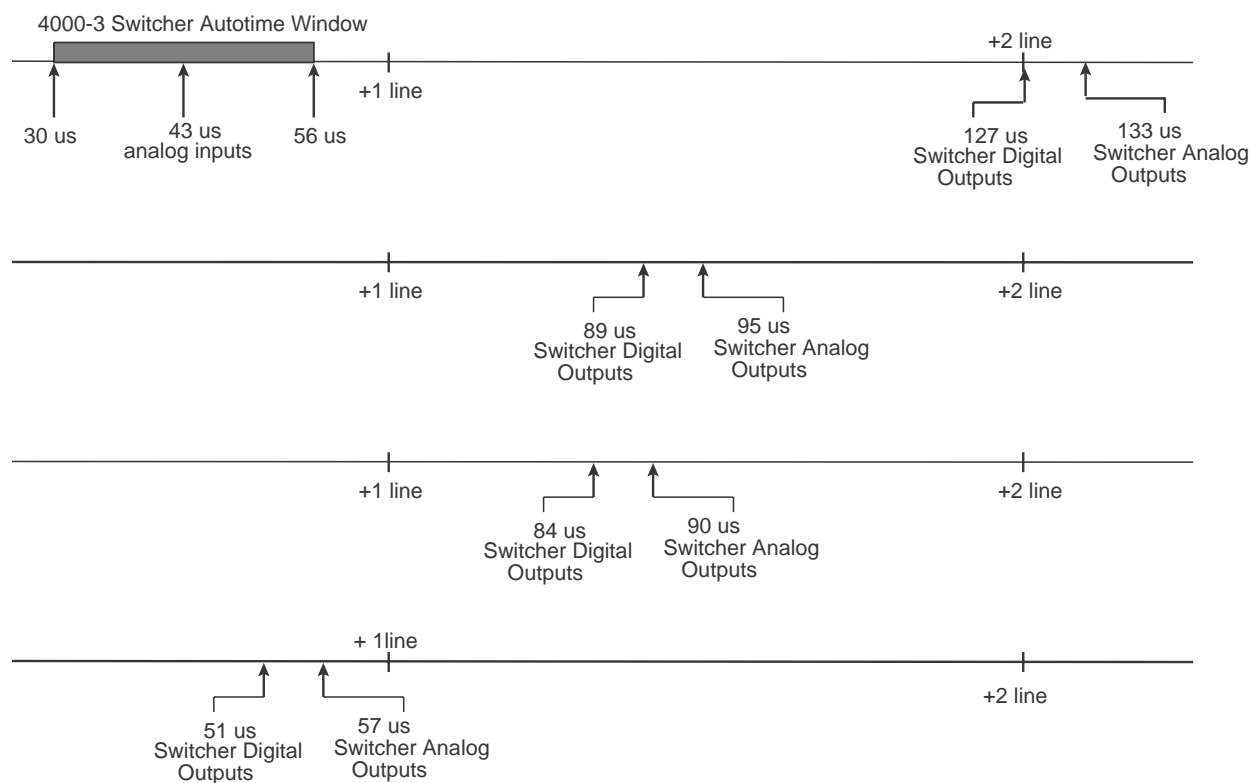

Figure 2-57. Model 4000-3 Timing Diagram
- Figure 2-57 illustrates the timing for the Model 4000-3 switcher
3. On the oscilloscope, verify that the serial digital input timing is within the autotiming window corresponding to the Sync Generator rotary switch settings. Use the timing diagrams (see Figure 2-56 or Figure 2-57), to determine the center of the autotiming window relative to the switcher analog reference.